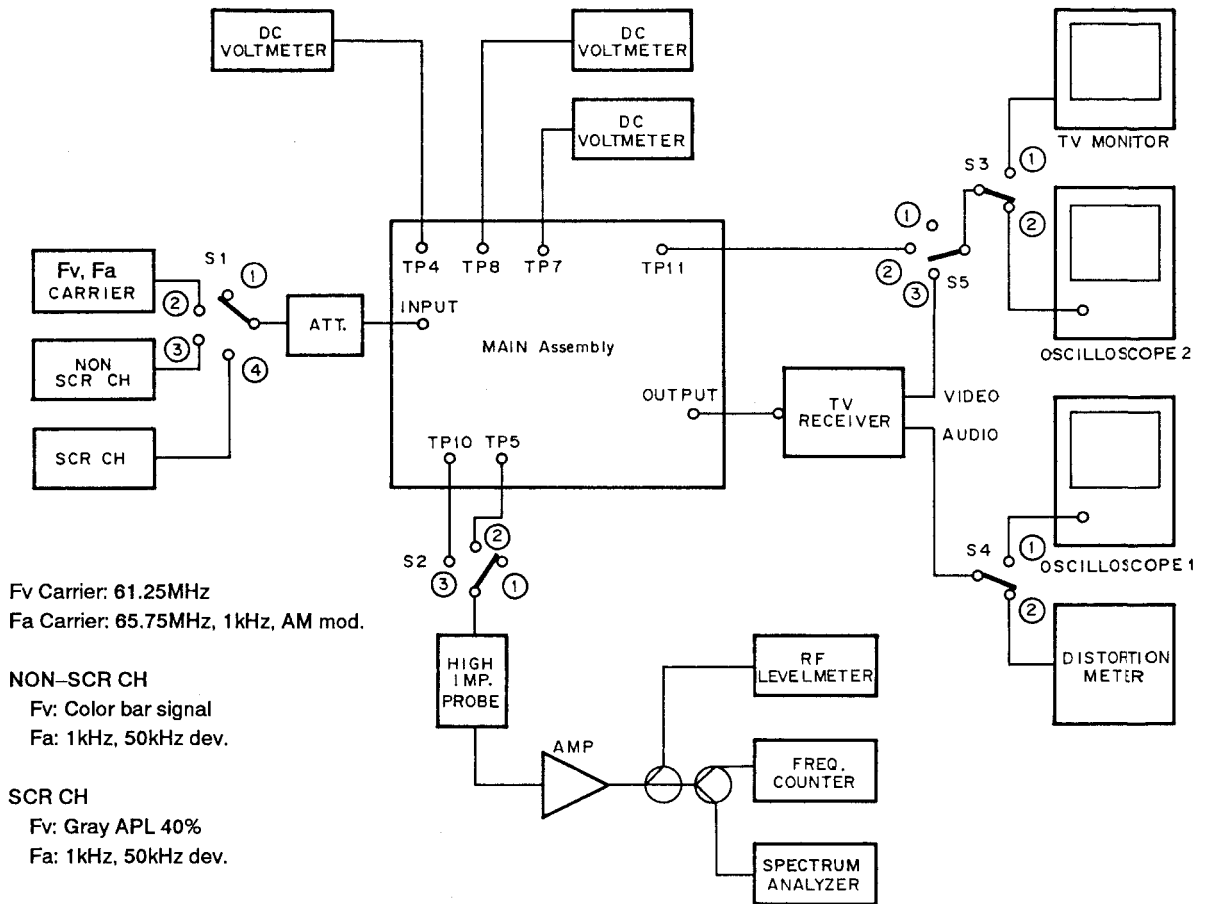

Fig. 14 Connection Diagram
2. Descrambler Section (Fig. 14)